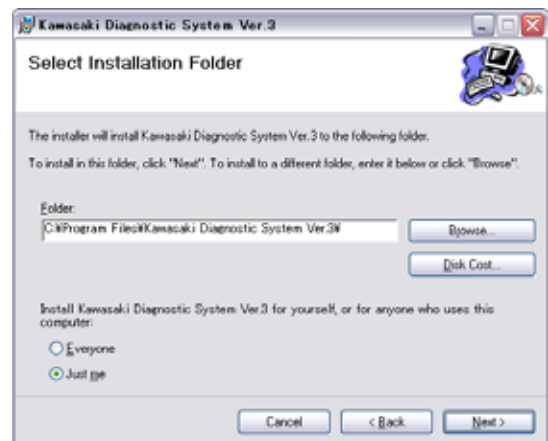

Fig. 2-14 Selection of Installation Folder
*C:\Program Files\Kawasaki Diagnostic System Ver.3* Fig. 2-14